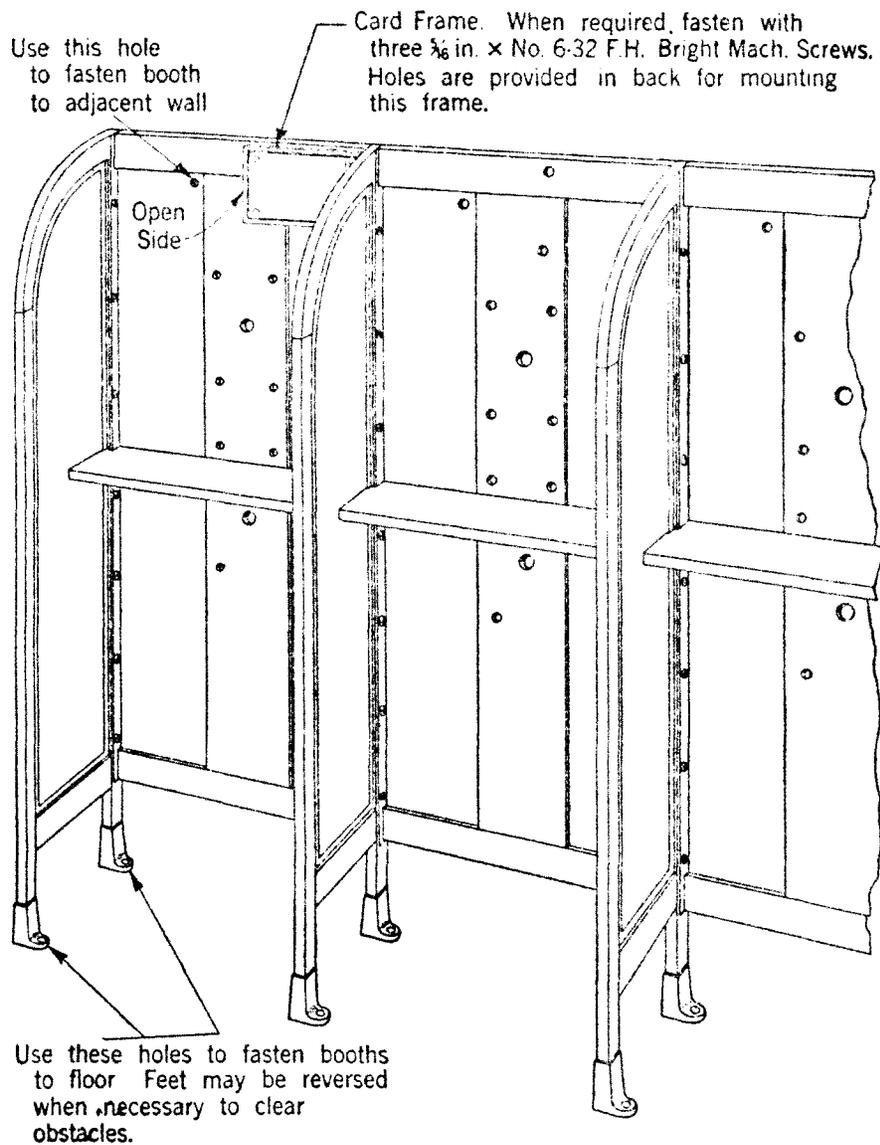

Fig. 2
5.03 If floor is in such condition that booth cannot be rigidly fastened as above, also fasten booth to adjacent wall with a 1-1/2 inch No. 14 R.H. Galvanized Wood Screw through hole which is provided in back of booth for this purpose (See Fig. 2). When necessary "build out" on wall to receive screw.